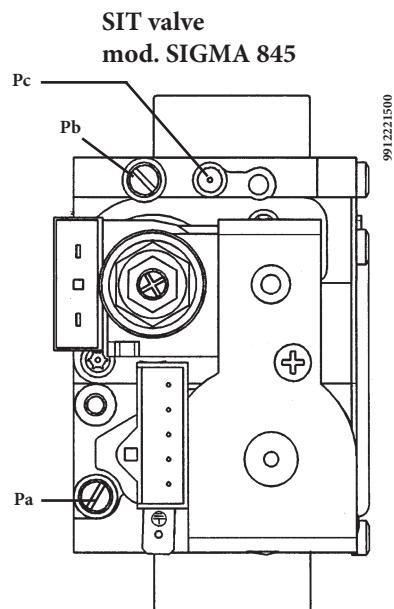
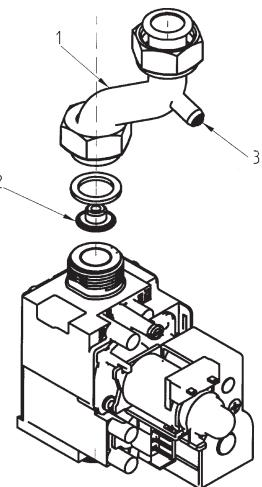

Figure 12a
Figure 12b (models 240/40 i - 240/60 i - 240/40 Fi and 240/60 Fi)
- remove the gas inlet hose (1 of Figure 12b);
- replace the diaphragm nozzle mounted on the gas valve (2);
- connect the positive pressure test point of a differential pressure gauge (possibly water-operated) to the gas valve pressure test point (**P_b**) (figure 12a). For models 240 i/Fi use the pressure tap (3) in the gas inlet hose (figure 12b). Only for models with sealed chambers, connect the negative pressure test point of the pressure gauge to a "T" fitting in order to join the boiler adjustment outlet, the gas valve adjustment outlet (**P_c**) and the pressure gauge. (The same measurement can be made by connecting the pressure gauge to the pressure test point (**P_b**) after removing the front panel of the sealed chamber);
- make sure that the dynamic inlet pressure of the boiler, measured at the gas valve pressure test point (**P_a**) (Figure 12a) is correct (30 mbar for butane, 37 mbar for propane or 20 mbar for natural gas).